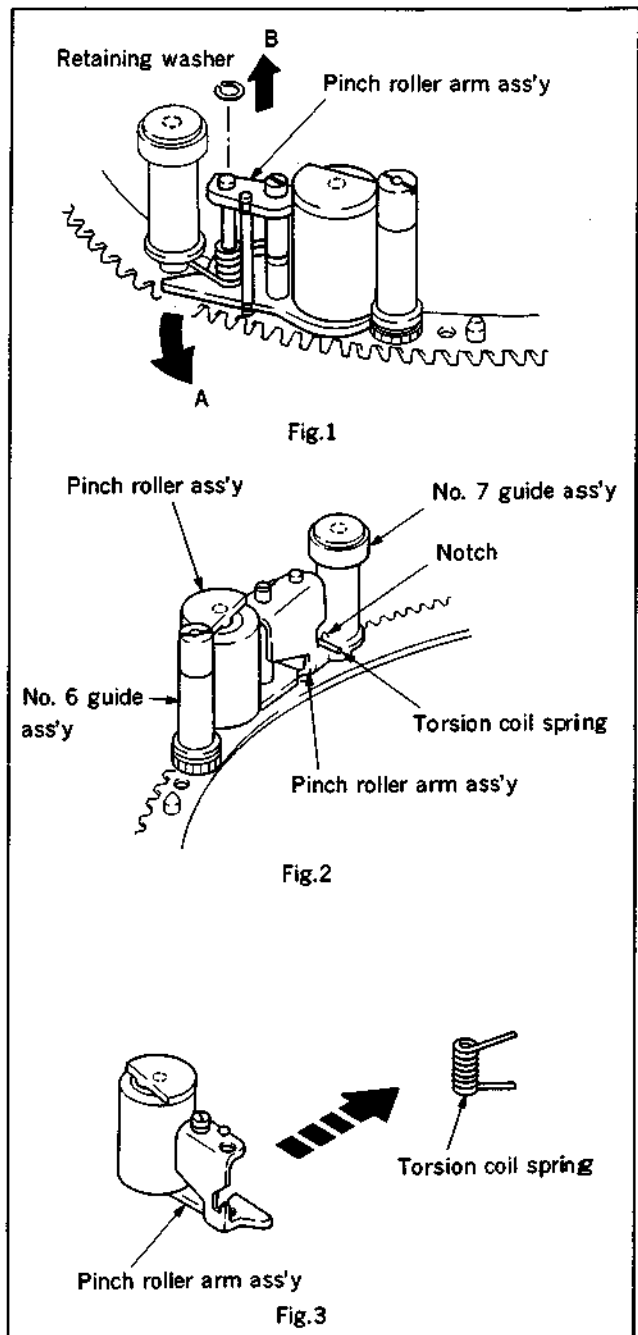

Fig. 4-6-1 Pinch roller arm ass'y removal
2. **Pinch roller arm ass'y removal (Fig. 4-6-1)**